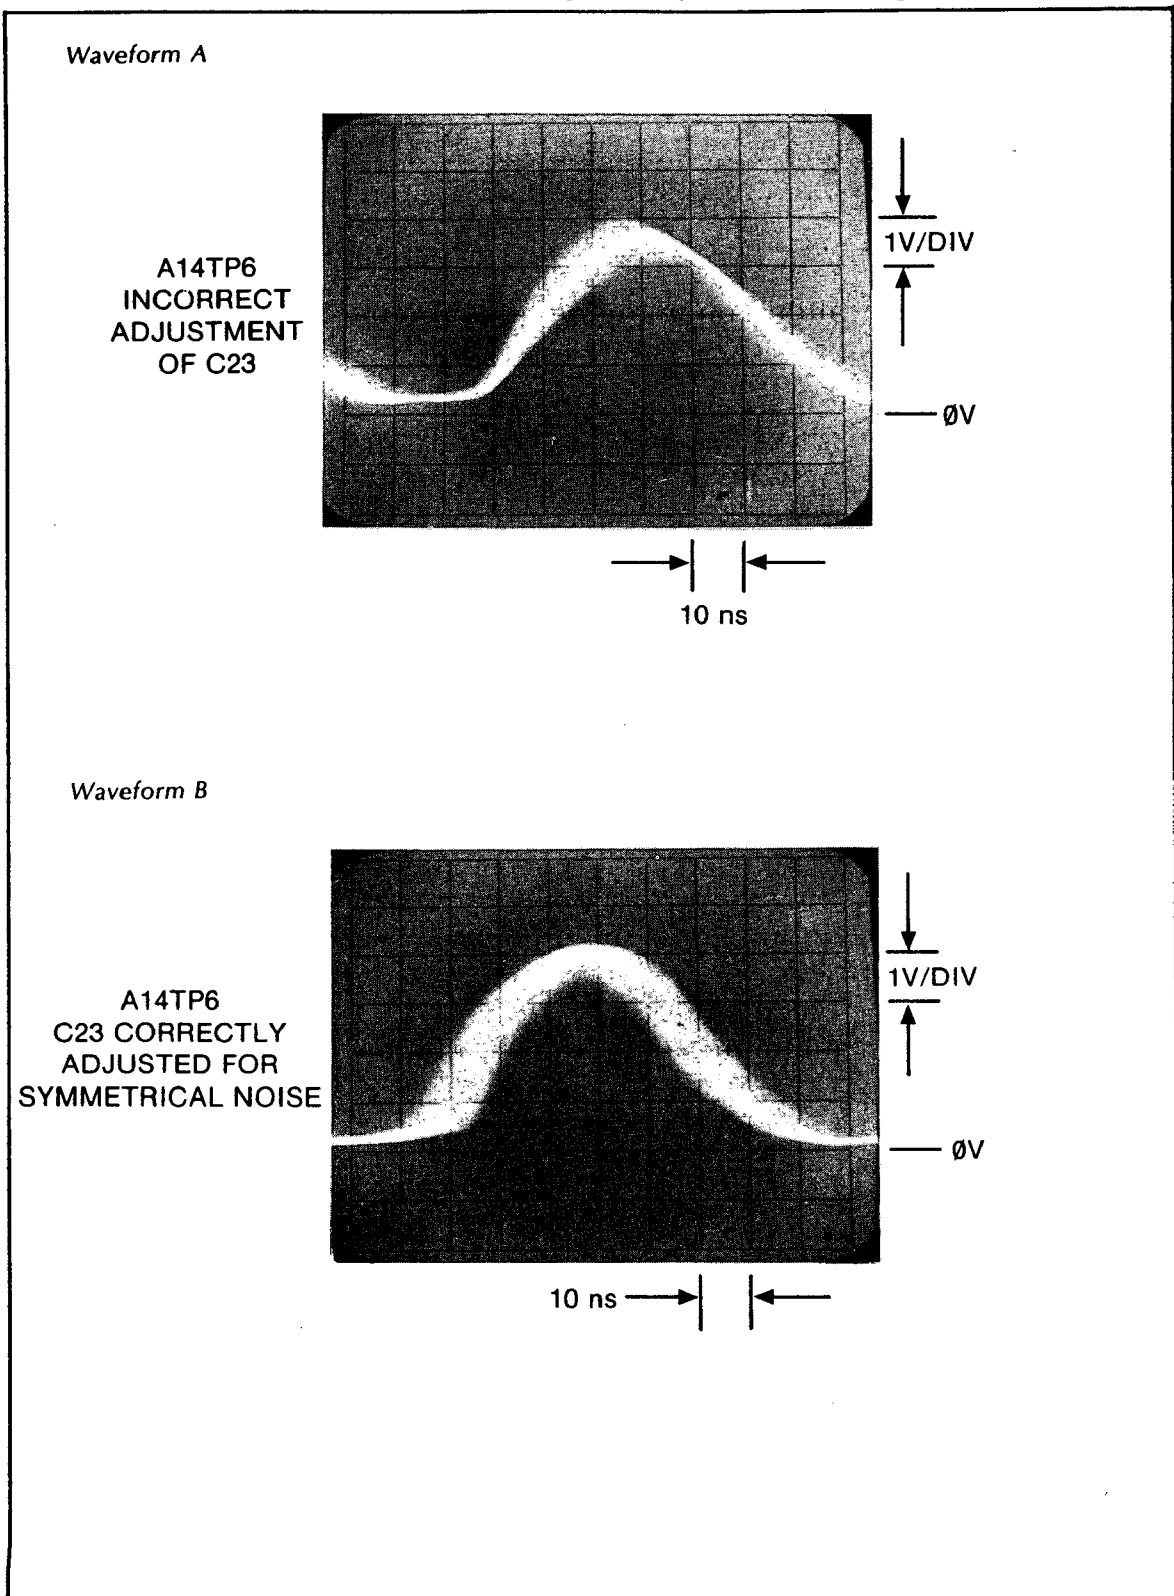

Figure 5-4. Phase Modulator Waveform
- d. Observe the signal at A14TP6 with an oscilloscope (still externally triggered from the HP5328B 10 MHz output). Adjust A14C23 so that the phase jitter on the sine wave signal is the same on the positive slope as on the negative slope as shown in Figure 5-4.